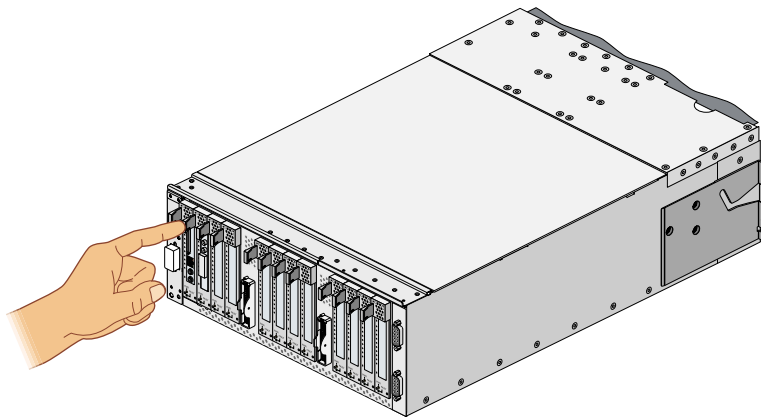

Figure 12-9 Seating the Card in the Slot
8. Push horizontally on the carrier seating bar, as shown in Figure 12-9, to seat the card securely in the slot.